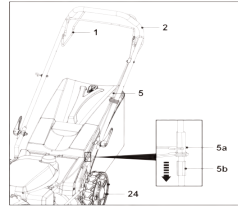

Fig. 32
If the rear wheels (24) do not rotate when operating the self-propelling lever (1), it may be necessary to adjust the self-propelling wire (5) (Fig. 32).